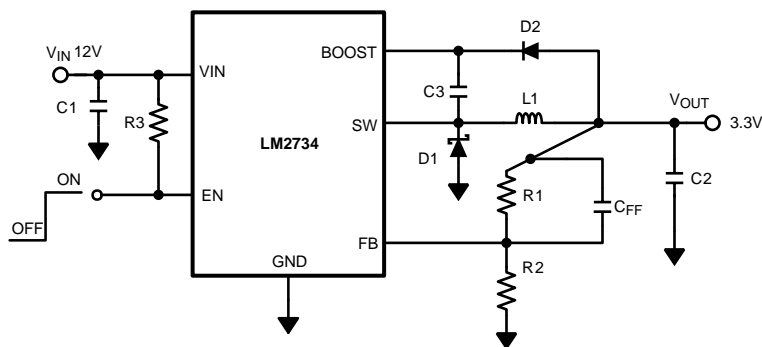

**Figure 27. LM2734X (1.6MHz)**
**Table 1. Bill of Materials for Figure 27**